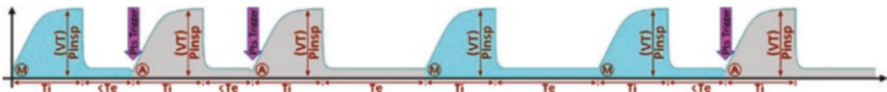
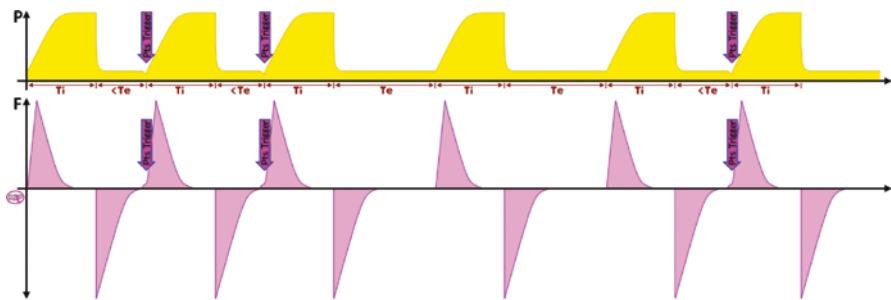

Fig. 4.5 Waveform of assist-controlled ventilation mode with mandatory breath and assist-controlled breath
Fig. 4.6 Waveform of assist pressure-controlled mode
Trigger sensitivity is activated, and so the patient's effort can be added to the preset total respiratory rate (RR). For example, the preset RR is 10 breaths/min, and the patient's CO_2 increases; the patient then will initiate breaths of 2–5 breaths/min, which then results to a total RR of 12–15 breaths/min (see Fig. 4.5). Mandatory breath will be delivered 60/RR sec from the previous breath (mandatory or assisted); if there is spontaneous breath before it reaches 60/RR sec, then assist-controlled breath will be delivered (see Figs. 4.6 and 4.7 for the waveform in pressure- and volume-controlled mode).